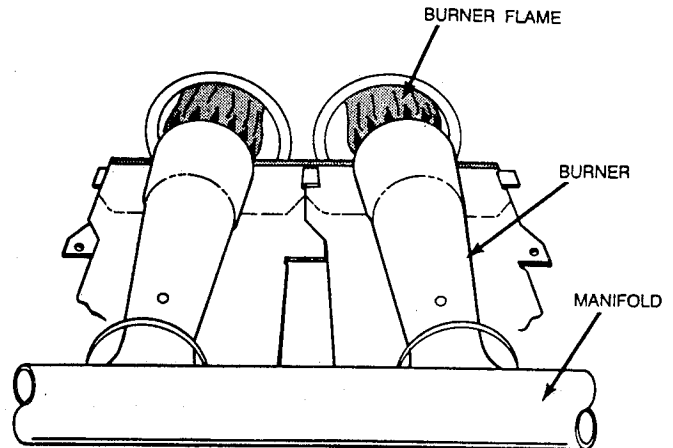

Fig. 14—Burner Flame
- (11.) When correct input is obtained, replace regulator seal cap. Main burner flame should be clear blue, almost transparent. (See Fig. 14.)